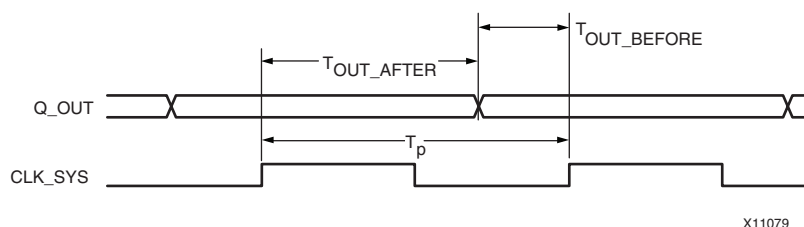

Figure 3-19: Timing Reference Diagram of OFFSET OUT Constraint
- Figure 3-19, “Timing Reference Diagram of OFFSET OUT Constraint”